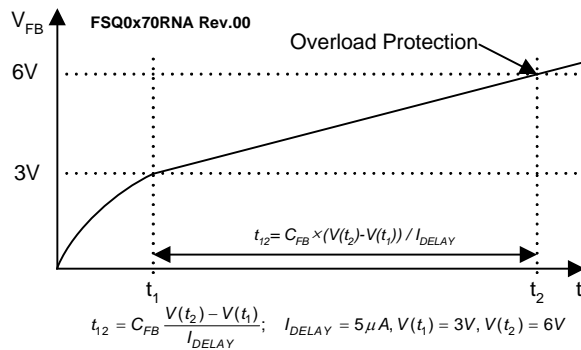

Figure 15. Overload Protection (OLP)
4.1 Overload Protection (OLP): Overload is defined as the load current exceeding a pre-set level due to an unexpected event. In this situation, the protection circuit should be activated to protect the SMPS. However, even when the SMPS is operating normally, the OLP circuit can be activated during the load transition. To avoid this undesired operation, the OLP circuit is designed to be activated after a specified time to determine whether it is a transient situation or a true overload situation. In conjunction with the I_{PK} current limit pin (if used), the current mode feedback path limits the current in the SenseFET when the maximum PWM duty cycle is attained. If the output consumes more than this maximum power, the output voltage (V_O) decreases below nominal voltage. This reduces the current through the opto-coupler LED, which also reduces the opto-coupler transistor current, thus increasing the feedback voltage (V_{FB}). If V_{FB} exceeds 3V, the feedback input diode is blocked and the $5\mu A$ current source (I_{DELAY}) starts to slowly charge C_{FB} up to V_{CC} . In this condition, V_{FB} increases until it reaches 6V, when the switching operation is terminated, as shown in Figure 15. The shutdown delay time is the time required to charge C_{FB} from 3V to 6V with $5\mu A$ current source.